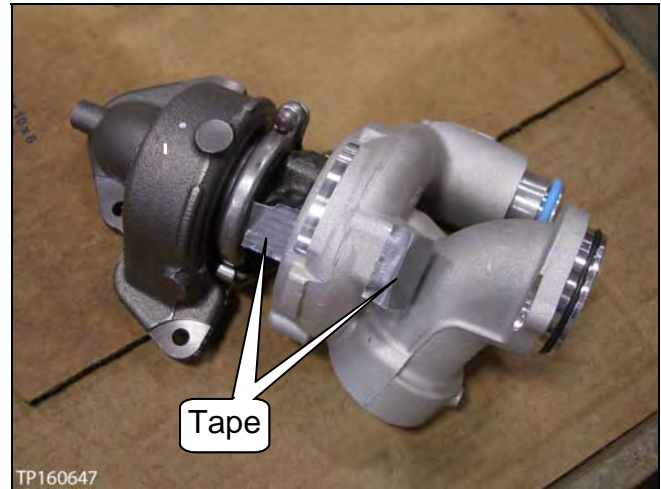

Figure 57
1. Remove the high pressure turbocharger from its packaging, and then install tape where shown in Figure 57.